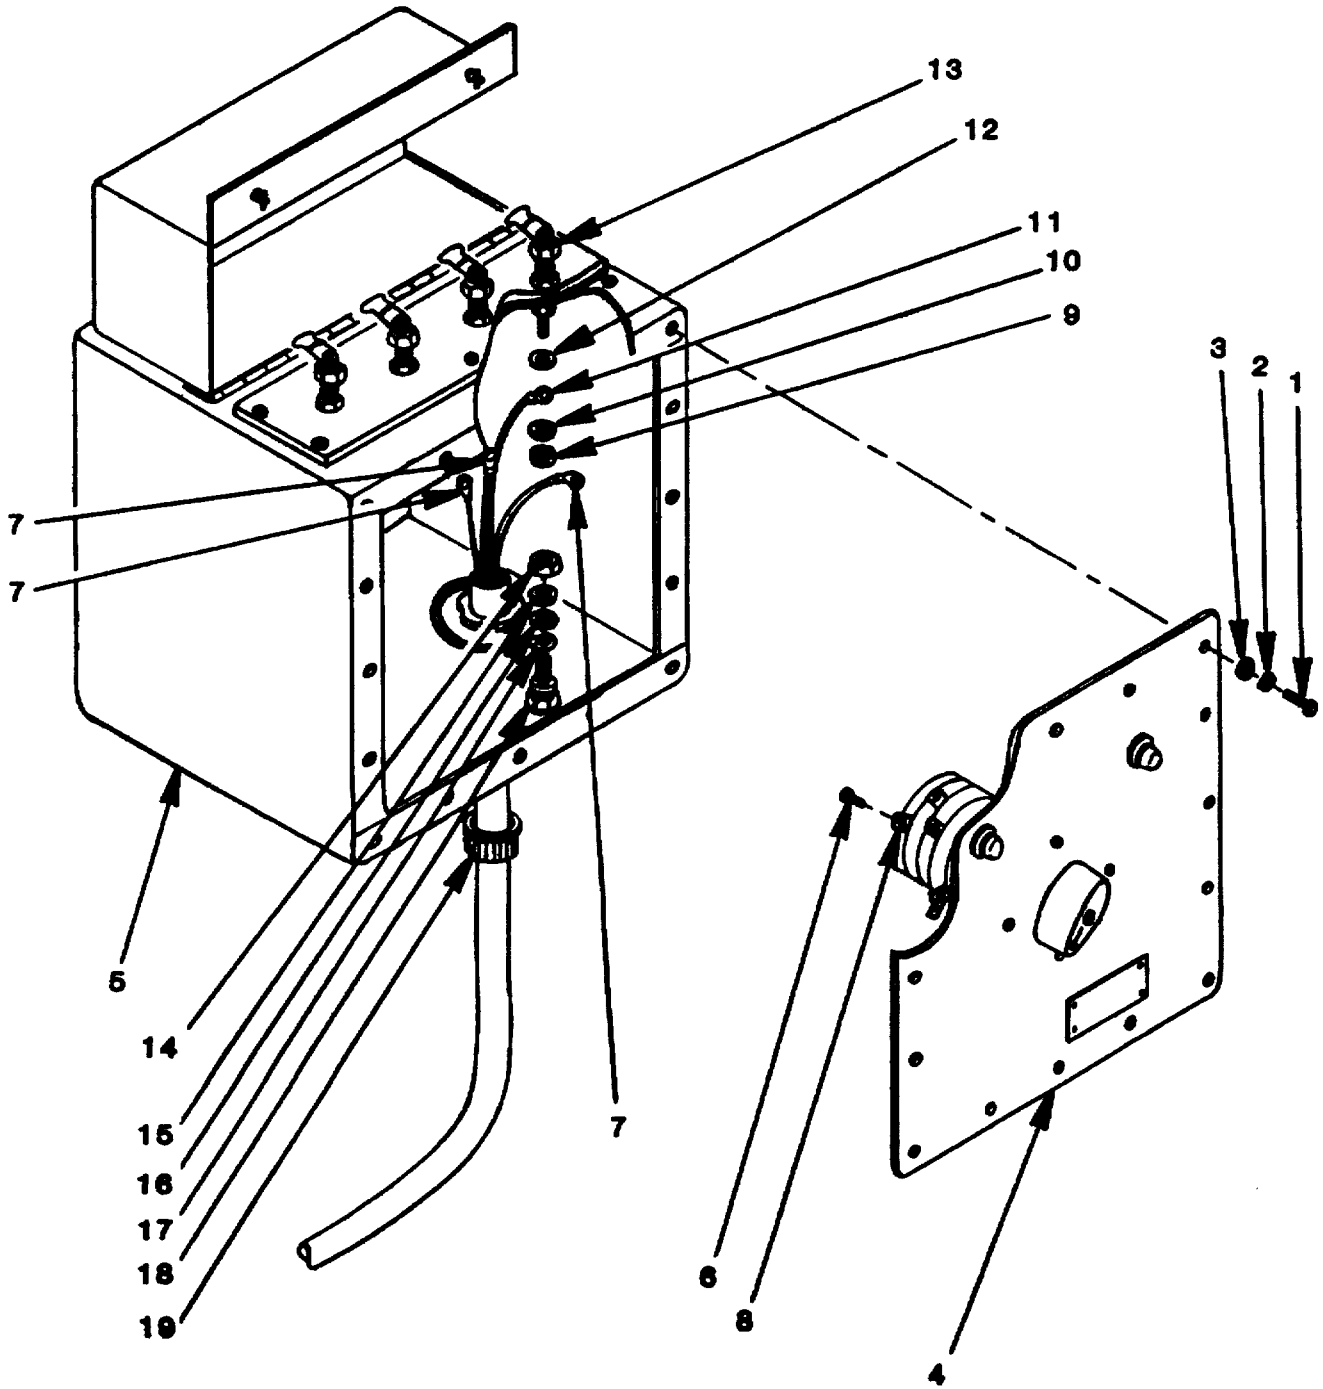

Figure 4-11. Switch Box Power Cable Replacement.
- b. Removal (See figure 4-11). There are two power cable assemblies on each of the switch boxes on the power plants - one power cable assembly for each generator set. This procedure is typical for both. When attaching wires, refer to the schematic inside the switch box (figure 4-4) and to the identification bands on each of the five wires that make up each power cable.
- (1) Removal.
- (b) Remove 16 screws (1, figure 4-11), lockwashers (2) and flat washers (3) securing cover (4) to switch box (5), and take cover off switch box.